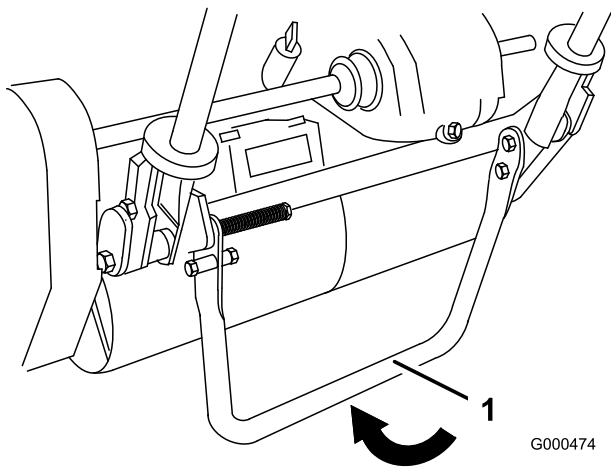

Figure 9
- Push kick stand down with foot and pull up on handle support until kick stand has rotated forward, over center (Figure 9).